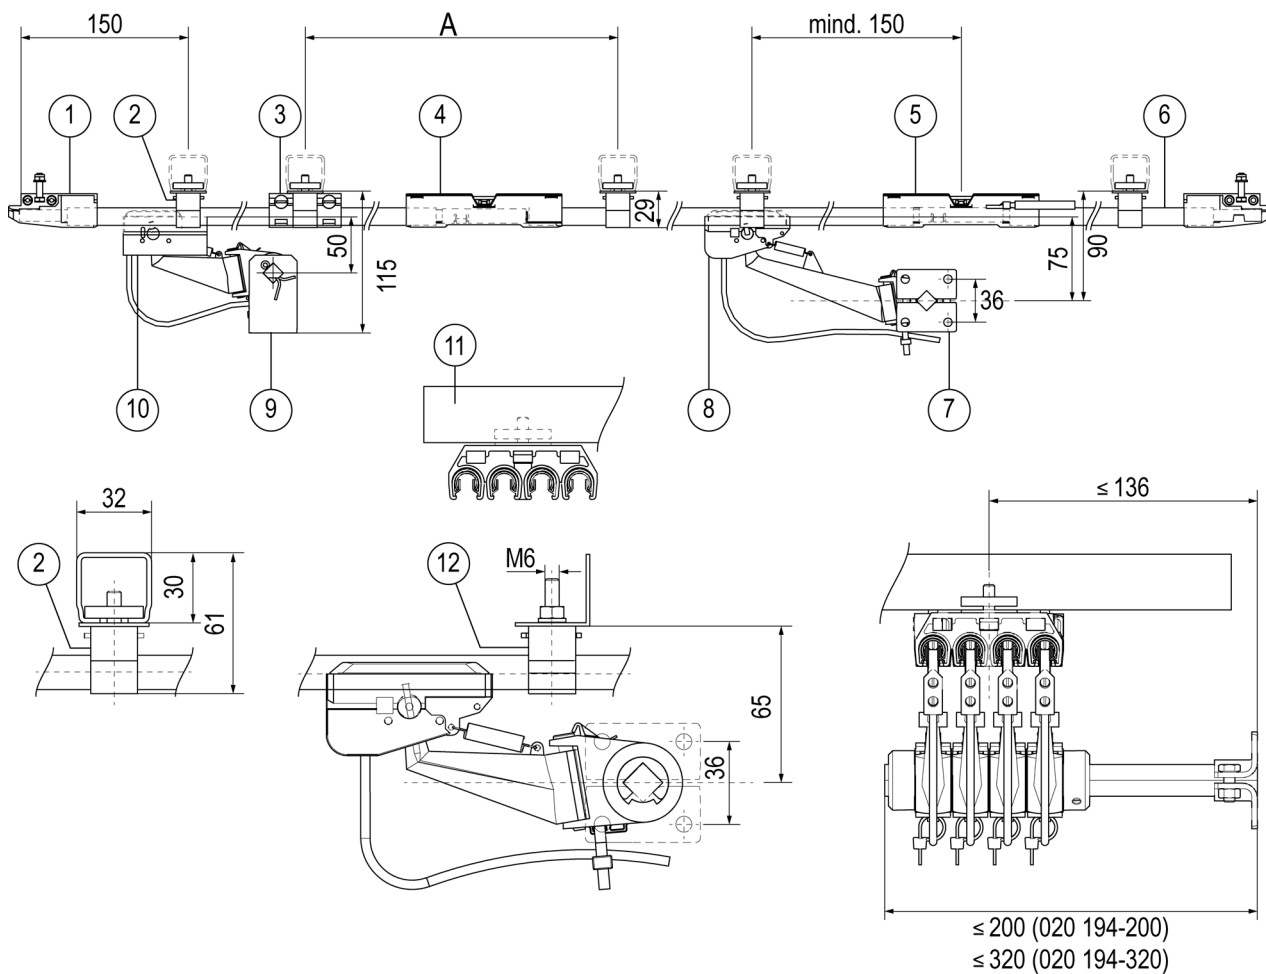

Fig. 50: Components in a conductor rail system
- Screw on hanger clamp at the specified distance. The minimum distances to other components must be observed (see Fig. 50).